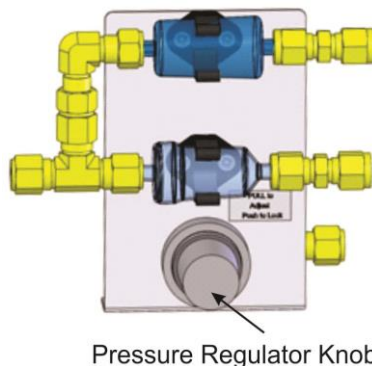

Figure 3-14: Output Pressure Regulator Assembly
The output flow rate must consider both the total gas flow requirements of all analyzers connected to the output manifold and the minimum output flow of the O₃ generator. Figure 3-14 shows a close-up of the regulator assembly.
3. Push the pressure regulator knob (Figure 3-14) back in to lock.